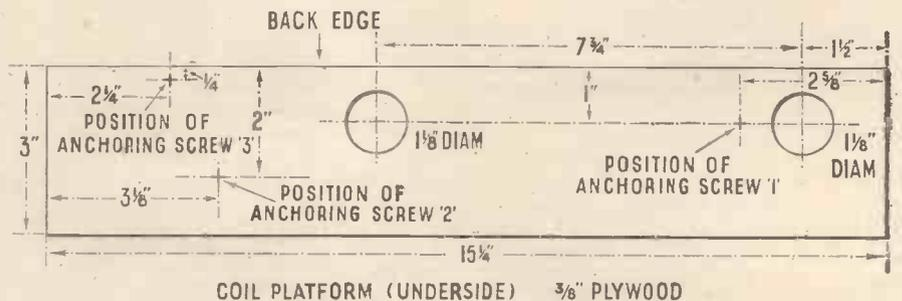

Fig. 2. Here are details of the positions of the coil holder holes and of the anchoring screws.
(F) Drill two 1 1/4-in. diameter holes for coil holders in coil platform, and make three holes with bradawl for anchoring screws in positions shown in Fig. 2.
(K) Screw the two coil holders to coil platform, using four 1/4-in. No. 4 round-head brass wood screws for each. The positions of the coil holders are clearly shown on the blue print. At the top of the blue print is a drawing of the two coil holders looking up at the underneath of the platform. Do not get the coil holders wrong way round. The little bulging slot of each coil holder must point away from the panel. Make sure that the sockets of the coil holders are in their correct relative positions. This is where you will probably go wrong. I repeat that the view of the coil holder sockets is from the underneath of the platform. If you imagine it is the top or get the little bulging slot pointing the wrong way it is entirely your own fault. This is absolutely essential. Fit three anchoring screws to coil platform, in positions shown in Fig. 2. Each screw is 1/4-in. No. 4 round-head brass, and a 1/8-in. x 1/8-in. hole brass washer must be used under each screw. Do not screw fully in, as various wires will be connected to them.